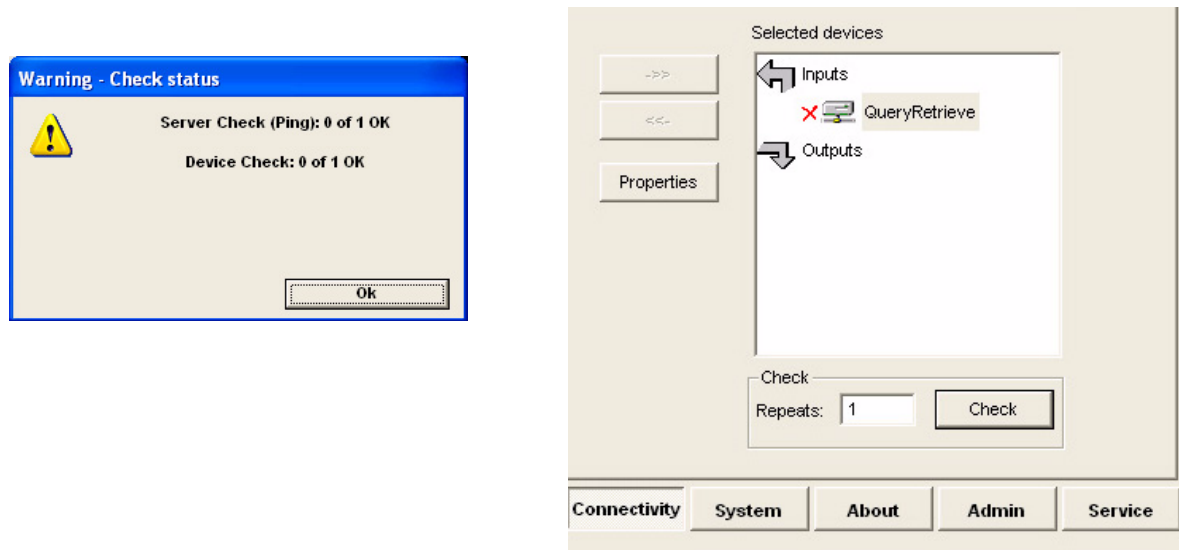

Figure 3-142 Test (Check) Failed
- If the test fails, a pop-up warning is displayed, see left illustration in Figure 3-142. Select **OK** to continue. A red "X" to the left of the Selected devices indicates that the test failed.